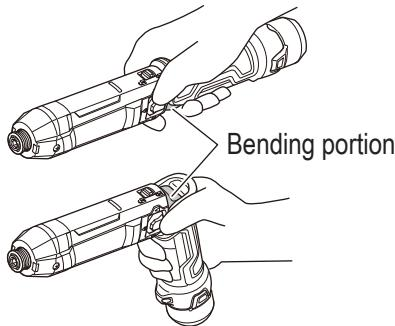

Fig. 1
Failure to do so can result in accidents or injuries. (Fig. 1)
3. Use this tool in straight configuration or pistol configuration according to the purpose of the work. When bending the tool body or straightening it again, do not touch the bending portion. (Fig. 1) Your finger or other part of the hand may be pinched by the bending portion resulting in possible injury (Fig. 1).